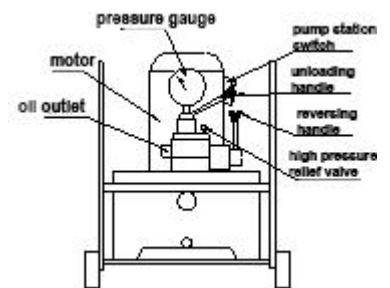

Figure 1
(1) As shown in Figure 1, first put the reversing handle at the O position, and then turn the unloading handle to the unloading position (counterclockwise).
(2) Turn on the pump station switch to start the hydraulic pump station.
(3) First lock the handle of the unloading valve (clockwise), and then turn the handle of the reversing valve to the upper pressure position (position A), and observe the pointer of the pressure gauge at the same time. When the pointer points to the required pressure, immediately put the reversing handle in the O position (i.e. hold pressure).
(4) After setting the pressure, turn the unloading handle to the unloading position (counterclockwise), and place the reversing handle at the O position.